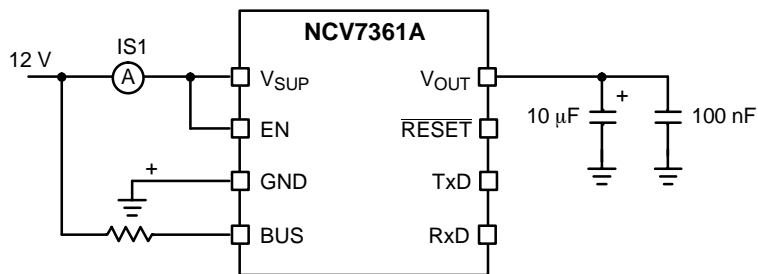

Figure 6. Test Circuit for Supply Current I_{Sn1}
4. See Figure 6 for test setup.